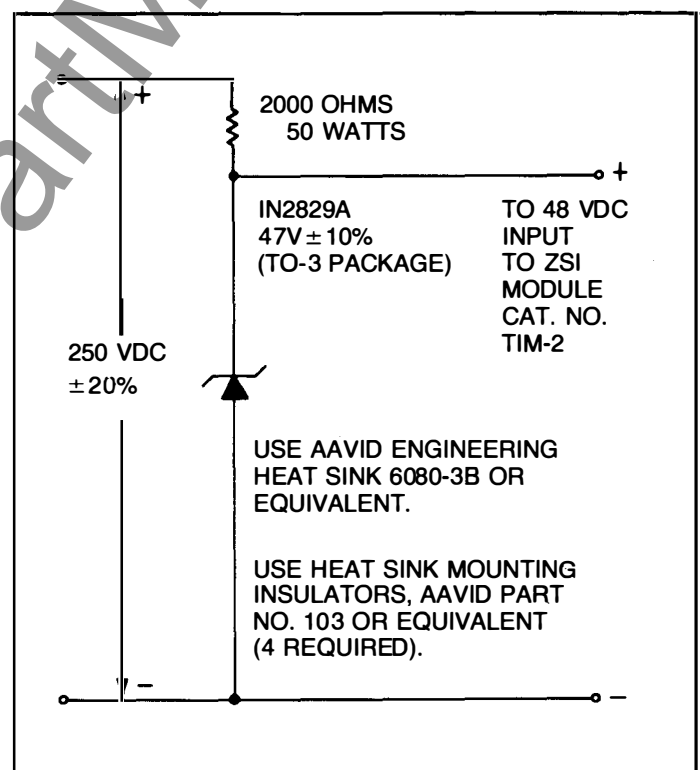

Figure 3. Using the ZSI module Cat. No. TIM-2 with 250-Vdc control power.
2. Cat. No. TIM-2: 48/125 Vdc—15 Va. max. Must be clean dc with a peak-to-peak ripple voltage of not more than 15% of rated voltage. Input Voltage Tolerance  $\pm 20\%$ . See Fig. 3 for use of the TIM-2 with 250-Vdc control power.